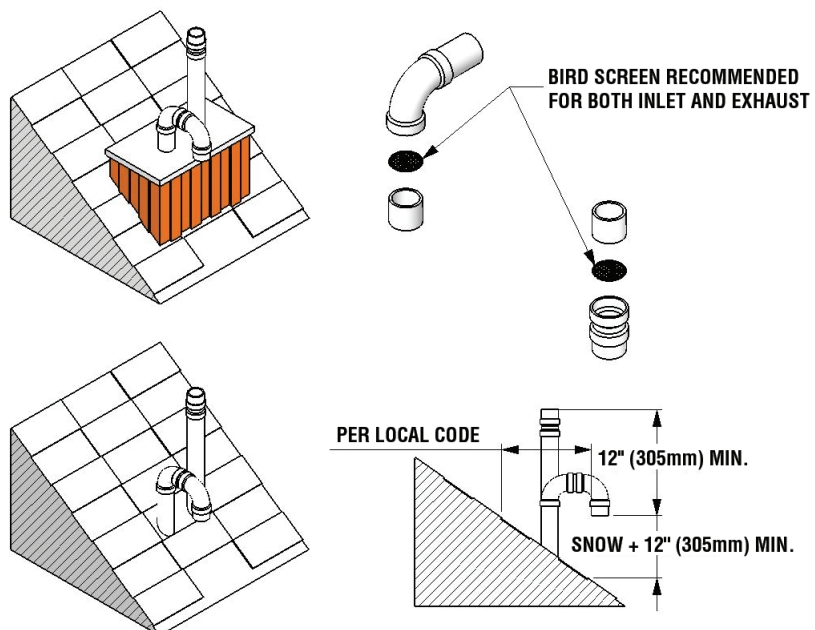

Figure 5b: Rooftop vent terminal configurations
- The intake air pipe is not typically drained, so it must be terminated with a down-turned elbow (see Figure 5b). The intake pipe does not need to penetrate the roof at the same elevation as the exhaust (as shown); lower down the roof is OK.